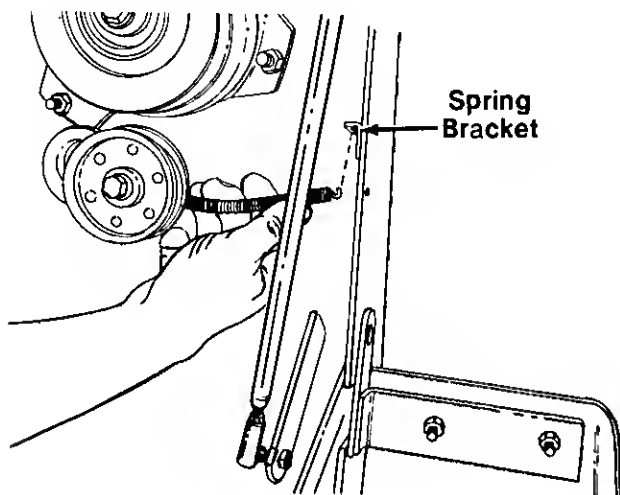

FIGURE 26.
3. Unhook the spring on the idler pulley from the spring bracket, located near the engine pulley. See figure 26.